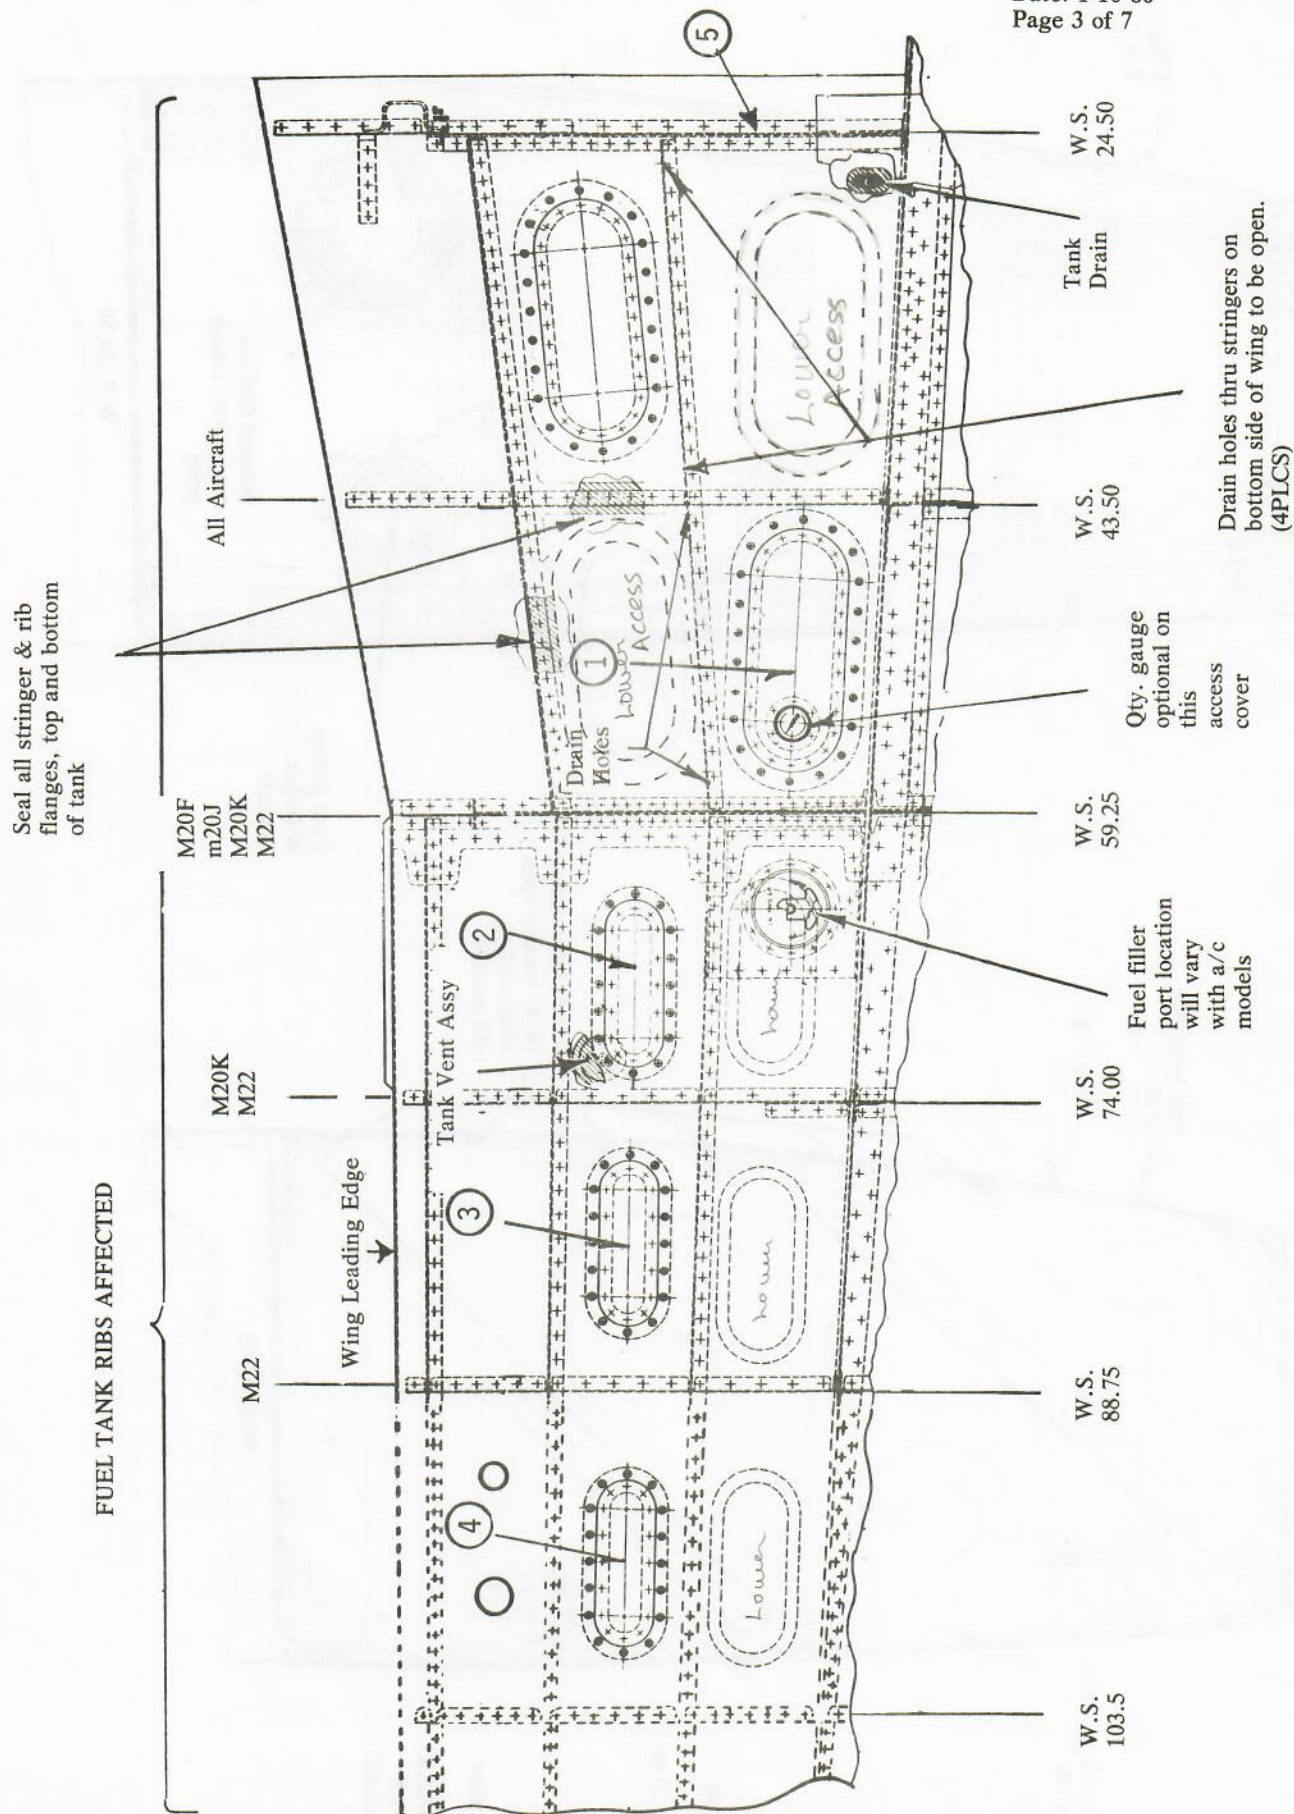

FIGURE M20-230-1
Refer to Figures M20-230-1 thru -7 for areas to check for specified holes to be open and **NOT** filled with sealant compound.
2. Carefully remove fuel tank access covers on top of wing as indicated below for a particular model (reference Figure M20-230-1).
FIGURES/TABLES: See Figure M20-230-1 thru M20-230-7.